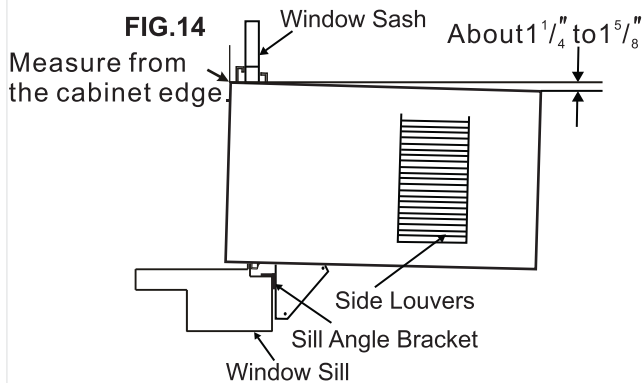

FIG.14
**NOTE:** Check that air conditioner is tilted back about  $1\frac{1}{4}''$  to  $1\frac{5}{8}''$  (tilted about  $3^\circ$  to  $4^\circ$  downward to the outside). After proper installation, condensate should not drain from the overflow drain hole during normal use, correct the slope otherwise (Fig. 14).
**NOTE:** Check that air conditioner is tilted back about  $1\frac{1}{4}"$  to  $1\frac{5}{8}"$  (tilted about  $3^\circ$  to  $4^\circ$  downward to the outside). After proper installation, condensate should not drain from the overflow drain hole during normal use, correct the slope otherwise (Fig.14).